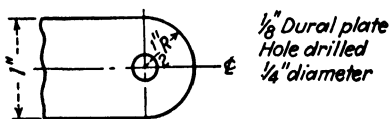

Fig. 219.
5. Find the bearing strength from the dimensions given in Fig. 219.